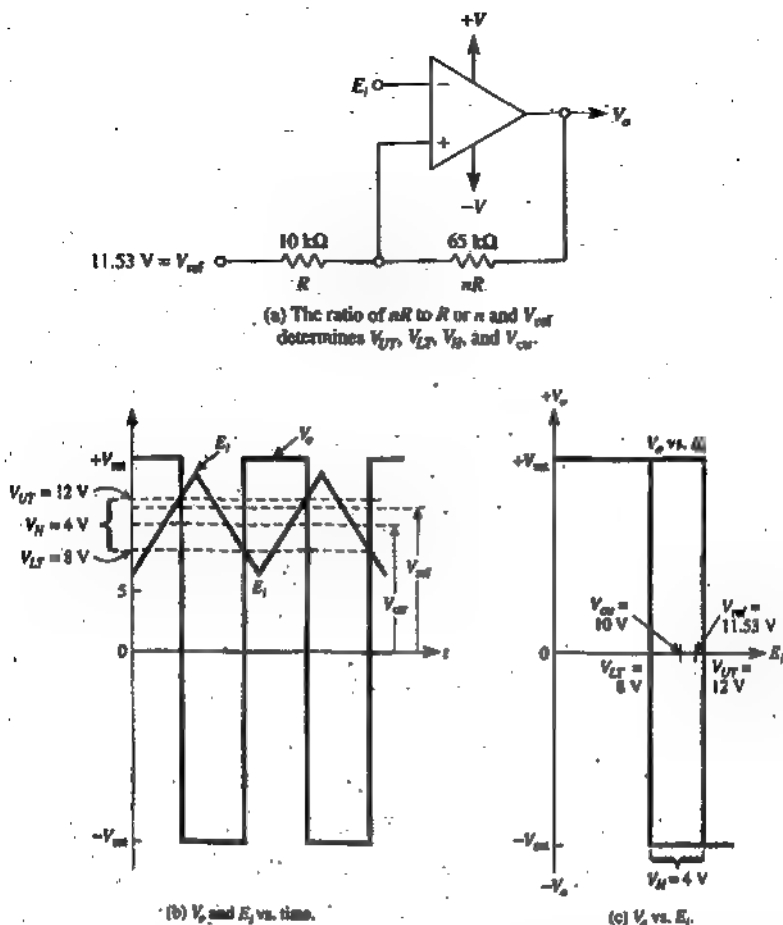

FIGURE 4-8 Inverting voltage-level detector with hysteresis. Center voltage V_{cr} and V_H cannot be adjusted independently since both depend on n .
If E_i and V_{ref} are interchanged in Fig. 4-7(a), the result is the inverting voltage-level detector with hysteresis (see Fig. 4-8). The expressions for V_{UT} and V_{LT} are
Complete a design for Fig. 4-8 that has $V_{AT} = 12$ V and $V_{LT} = 8$ V. To make this example comparable with Example 4-4, assume that $\pm V_{sat} = \pm 15$ V. Therefore, $V_{cr} = 10$ V and $V_H = 4$ V.
3. Choose $R = 10\text{ k}\Omega$; therefore, resistor nR will be $6.5 \times 10\text{ k}\Omega = 65\text{ k}\Omega$. These circuit values and waveshapes are shown in Fig. 4-8.